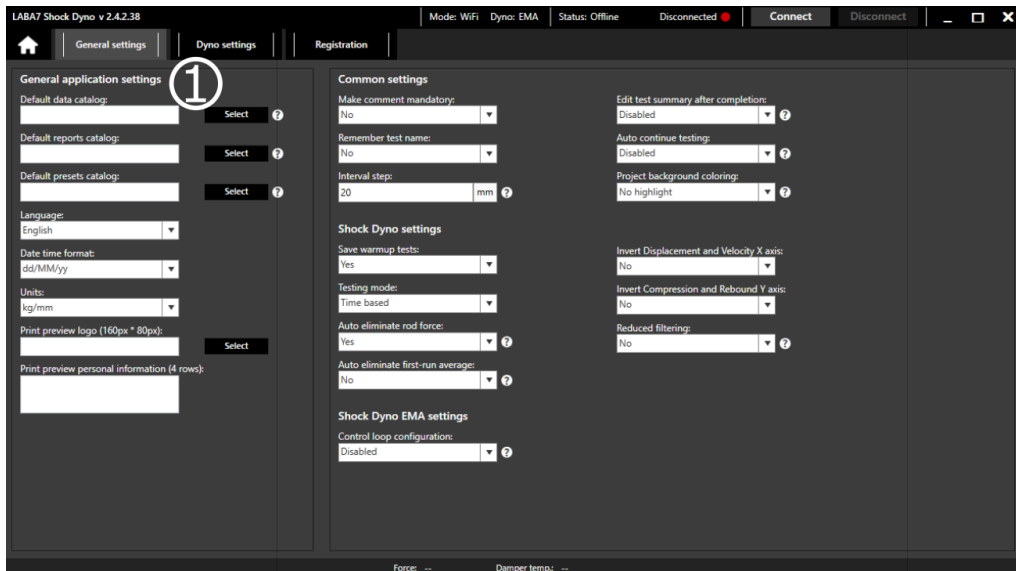

Figure 11
2. Select the default data catalog, this is the catalog, where all of your test project files will be saved (Figure 11 – Step 1).